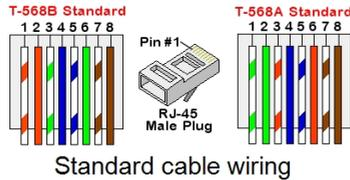

Figure 20: Standard cable wiring
- c. Insert the eight wires into an RJ45 connector, as described in *Figure 20*.
7. For the switch/router side, use a pre-crimped cable or use a crimper to prepare an RJ45 communication connector: Insert the eight wires into the RJ45 connector in the same order as above (*Figure 20*).